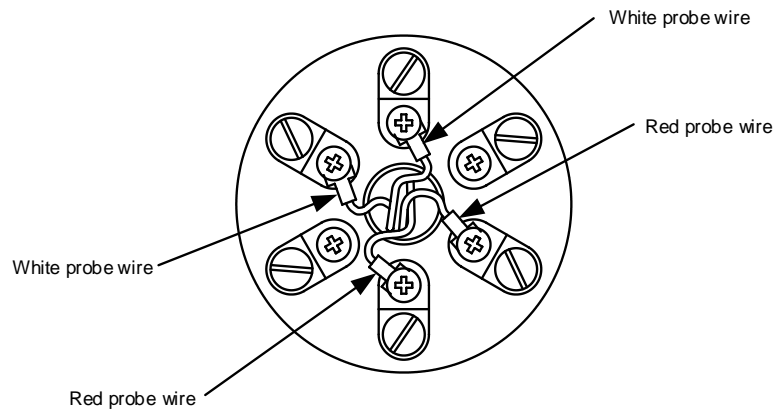

Figure 21: RTD probe wiring to explosion-proof head wiring block
9. Wire the RTD probe wiring to the wiring block located inside of the explosion-proof head assembly (Figure 21).